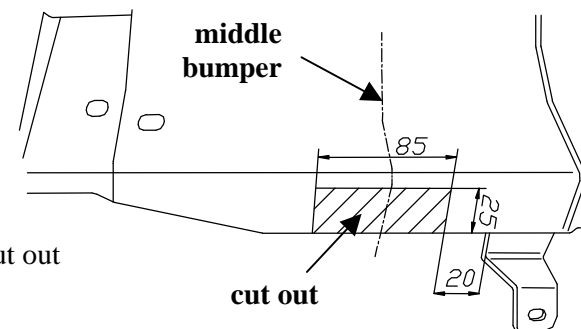

Fig. 2 Bumper's cut out
- In bumper cut out fragment (in axis) according to figure 2.